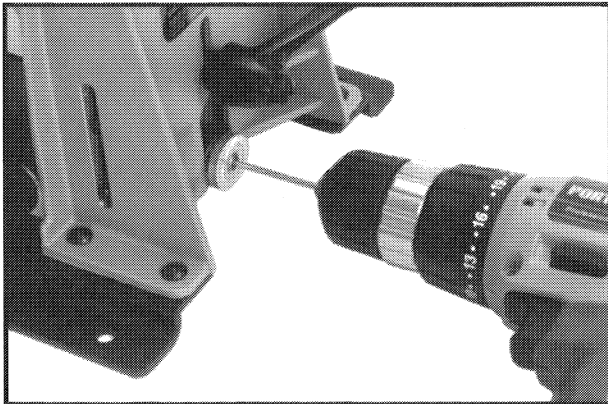

Fig. 9
6. **BEFORE RELEASING WORK CLAMP**, drill clearance hole for screw (see Fig. 9).
8. Retighten collet after each fifty (50) cuts made, to prevent bit slippage.